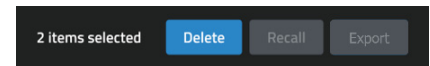

Figure 44: 3 Action Buttons
- 1) Click the "Check Box" on the left of the Scene Name, 3 action button will pop-up at the Bottom (Delete, Recall, Export), see **Figure 44**.